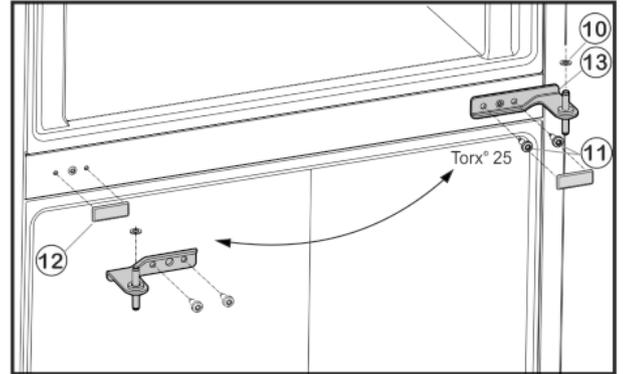

Fig. 6
- ▶ Unscrew the fastening screws Fig. 6 (11) (2 x Torx® 25) and pull the centre bearing block out of the lower door.
- ▶ Remove plastic washer Fig. 6 (10).
- ▶ Remove the cover Fig. 6 (12) carefully.
- ▶ Re-install the cover Fig. 6 (12) on the opposite side.
- ▶ Insert the centre bearing block Fig. 6 (13) turned through 180° into the lower door and fasten firmly (**with 4 Nm**) to the new hinge side with the fastening screws Fig. 6 (11) (2 x Torx® 25).
- ▶ Refit plastic washer *Fig. 6 (10)*.
- ▶ Set the upper door down on the centre bearing block *Fig. 6 (13)*.